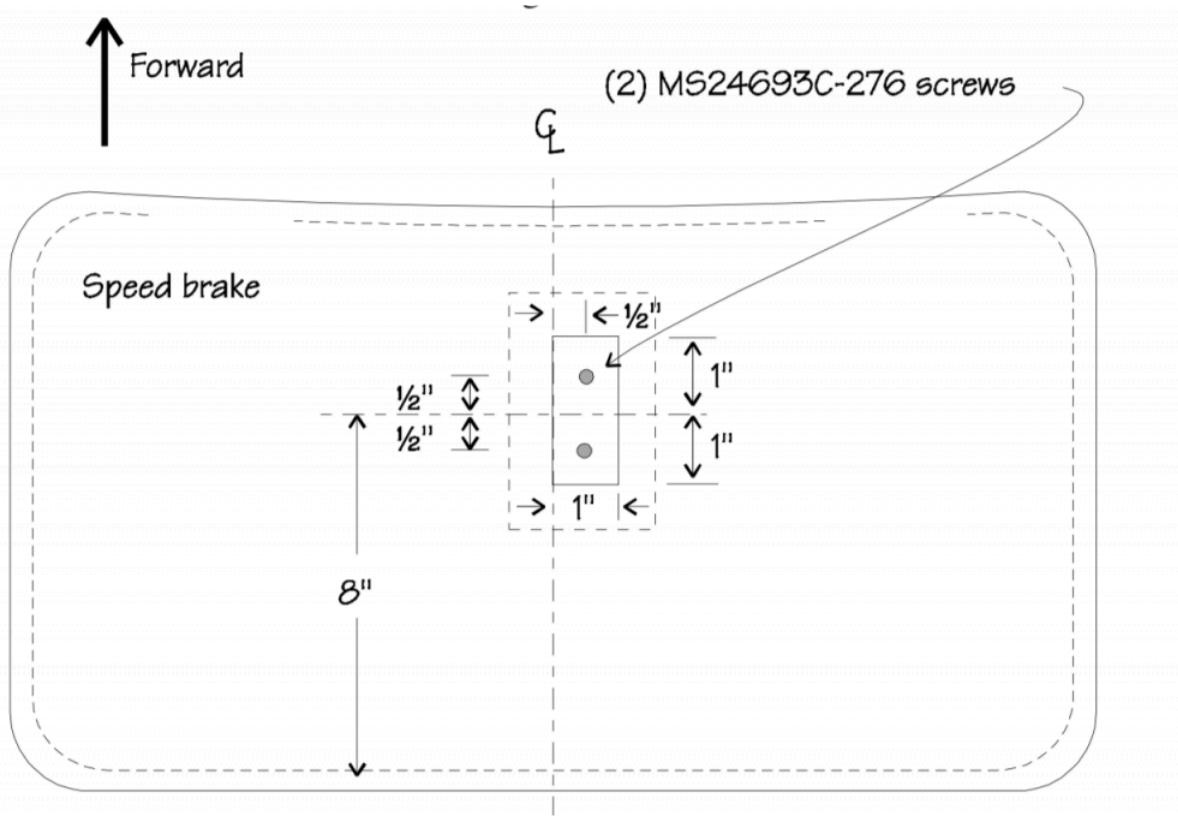

Figure 6-22. Speed Brake Actuator Hardpoint
- ___ Drill holes in the locations shown in Figure 6-22.